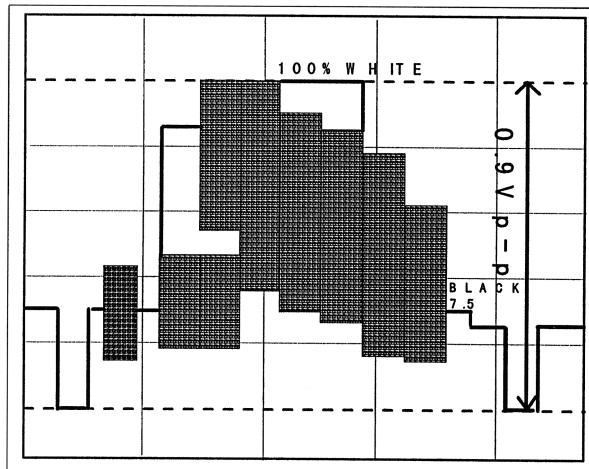

Fig. 7
6. Adjust VR701 to get the waveform at TP10 and TP4 is $0.9\text{Vp-p} \pm 0.1\text{Vp-p}$ same with the waveform at probe 1. (Refer to Fig. 7)